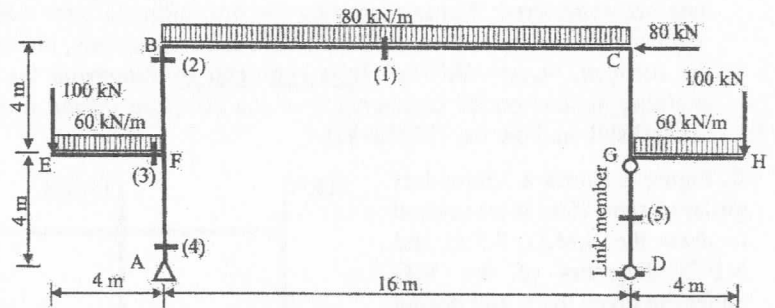

Fig. 5
- (d) Figure 5 shows the statical system, ultimate loads, and dimensions of intermediate RC frame ABCDEFGH. The frame is used to cover a hall with a span of 16.0m, as well as two side parks with a span of 4.0m. The frame is supported on a hinged support at (A) and a link member at (DG). The frame is spaced at 5.0m and the slab thickness is 120mm. The frame has a constant cross section width of 400mm. The given loads are ultimate loads including own weight. Determine the following:
For the two stories shear building shown in Fig.5. $E = 2000 \text{ t/cm}^2$ and $I = 0.002 \text{ m}^4$, determine: